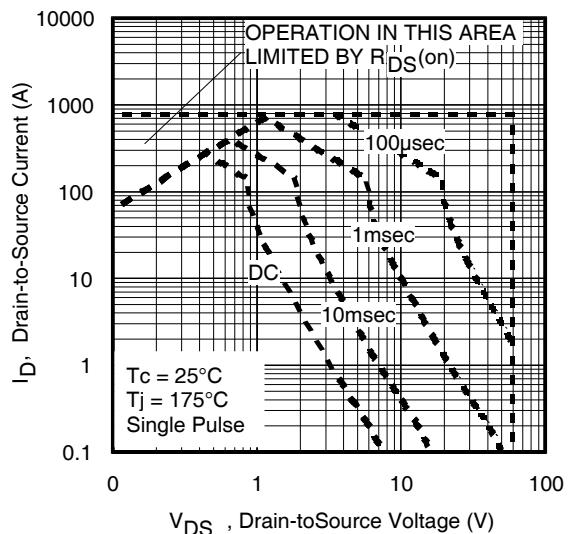

Fig 11. Maximum Safe Operating Area
- $Z_{thJC}(D, t_{av})$  = Transient thermal resistance, see figure 11)